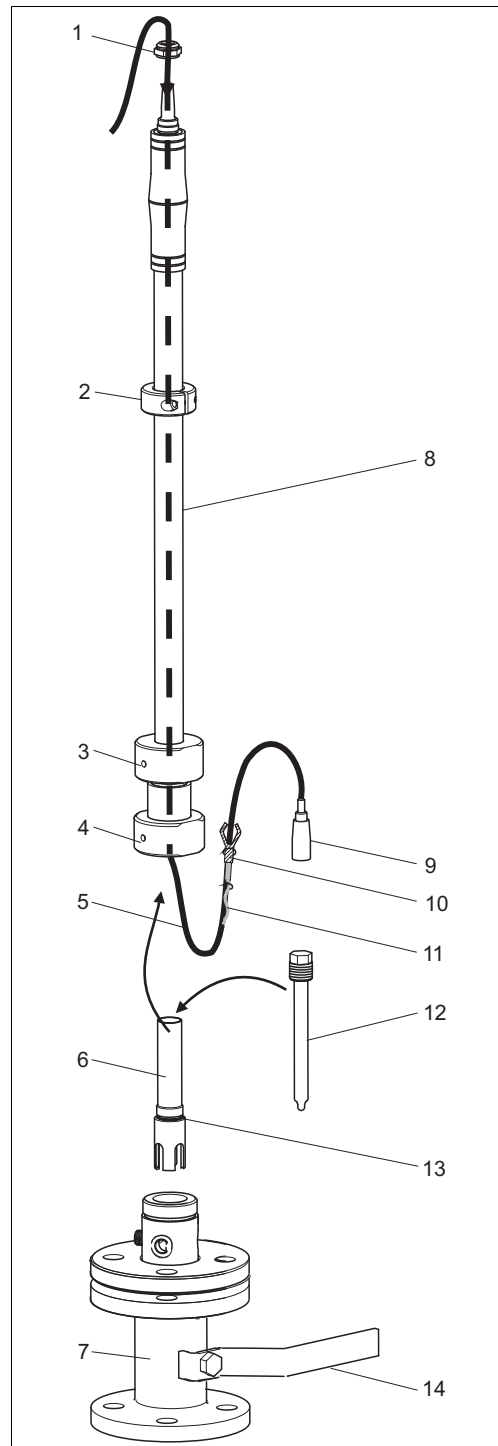

Fig. 8: Cable routing and sensor installation
1. Insert the assembly in the ball valve (Fig. 8, pos. 7).
2. Tighten the lock ring (pos. 4) using the supplied hook wrench.
3. Make sure that the union nut (pos. 3) is only opened by $\frac{1}{2}$ revolution.
4. Adjust the setting collar (pos. 2) to the desired immersion depth and lock it in that position using an Allen wrench.
5. Open the ball valve (pos. 14).
6. Push the immersion tube into the process until stopped by the setting collar (pos. 2).
7. Tighten the compression fitting hand-tight (pos. 3). Then use the supplied hook wrench to further tighten the compression fitting by $\frac{1}{8}$ revolution (45° , corresponds to 10 to 15 Nm (7 to 11 lbf ft)).